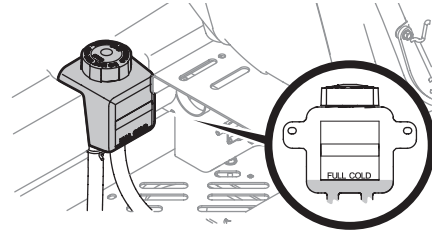

Figure 40
1. Pivot the operator's seat forward and clean the reservoir cap and the area around the cap to prevent debris from contaminating the transmission oil (Figure 40).
2. Turn the reservoir cap counter-clockwise to remove, then check the oil level in the reservoir. Oil should be visible at the bottom of the cup, but the oil level must NOT be above the "FULL COLD" line (Figure 40). DO NOT FILL THE RESERVOIR.